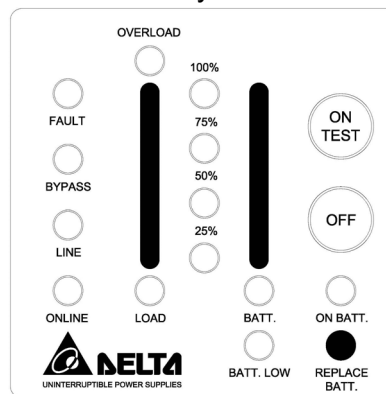

Fig 4-6 Battery Replace
- ✓ **BATTERY REPLACE:** This LED function is to alert user that the batteries should be replaced. When the microprocessor in the UPS detects a battery fault, the UPS alarm will give out three beeps. Each beep lasts for 0.5 seconds and interrupted by an interval of 0.5 seconds. After the initial 3 beeps, the alarm will continue to sound every one hour. Shown as fig 4-6.